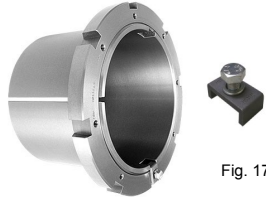
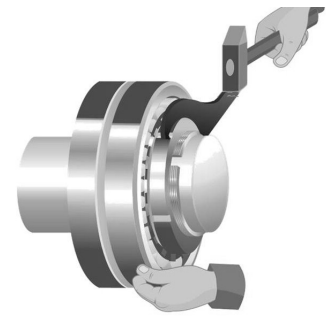
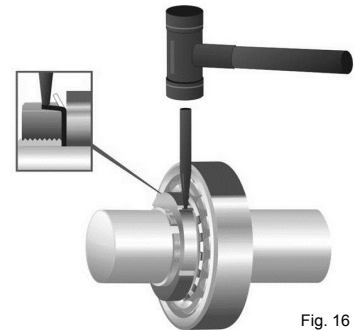

Fig. 17
Fig. 15
Fig. 16
**7A. Spanner & Wrench Method:** For smaller bearings (below 6-inch shaft diameter) a spanner wrench and hammer are usually enough to properly mount the bearing (See Fig. 15). For larger sizes, consider using a Hydraulic Nut or Locknut with Mounting Screws. Measure clearance frequently during the tightening process. Tighten the bearing to the recommended final internal clearance. (As a guide, the Lock Nut will rotate approximately 1/3 of a turn further from the hand tight position. Recognize the “hand tightness feel” varies by installer. See Tables 4 & 5 concerning expected nut rotation during tightening). Once the final recommended clearance is achieved, remove the Lock Nut and install the Lock Washer between the bearing and re-tighten the Lock Nut.
After installing the bearing to the recommended internal clearance indicated in Table 3, loosen and remove the Lock Nut, and install the Lock Washer between the Lock Nut and bearing. (Adapters for 8-inch (200mm) shaft size and above do not use washers, but rather locking clips or plates). Re-tighten the Lock Nut to the bearing (Fig. 15). The outer tabs on the washer should fit against the mating beveled edge of the Lock Nut. Fit the ID washer tab into the corresponding slot on the adapter and re-tighten the Lock Nut. Find the Lock Washer OD tab that aligns nearest to slot on the OD of the Lock Nut, and bend this corresponding Lock Washer tab into the slot as shown (Fig 16). If a slot on the nut does not line up with a washer tab, tighten the nut slightly until one of the tabs on the washer can be bent into the nearest nut slot. Check the internal radial clearance to ensure nothing has changed. **If a Locking Clip (Fig 17) is used instead of a Lock Washer, locate the nearest locking slot so the clip fits into the notch in the adapter sleeve. This will secure the Locking**